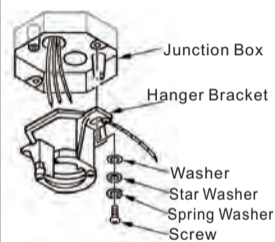

Fig.12
Step 4: Secure the hanger bracket to the ceiling outlet box using screws included with your outlet box and washers included with the fan.(Fig.12)